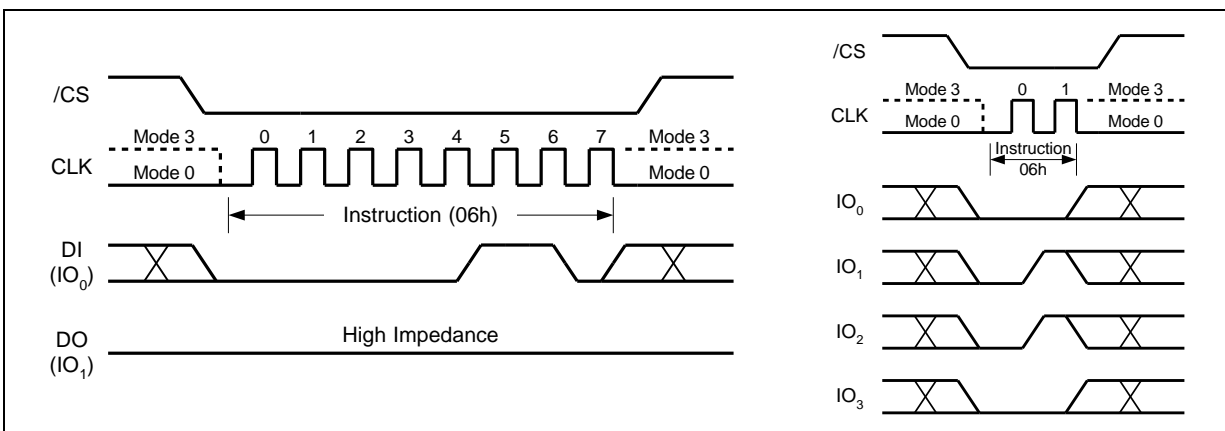

Figure 5. Write Enable Instruction for SPI Mode (left) or QPI Mode (right)
The Write Enable Instruction (Figure 5) sets the Write Enable Latch (WEL) bit in the Status Register to a 1. The WEL bit must be set prior to every Page Program, Quad Page Program, Sector Erase, Block Erase, Chip Erase, Write Status Register and Erase/Program Security Registers Instruction. The Write Enable Instruction is entered by driving /CS low, shifting the Instruction code “06h” into the Data Input (DI) pin on the rising edge of CLK, and then driving /CS high.